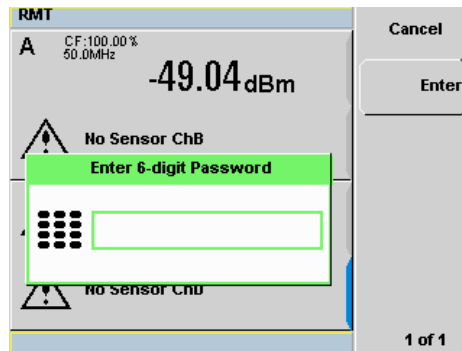
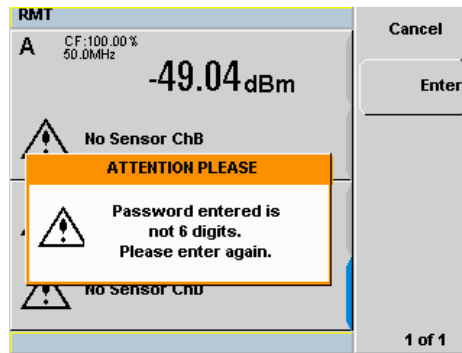

Figure 2-47 Enter 6-digit Password pop-up
Figure 2-49 Warning message
- 3 Press **Secure Blank**. The Enter 6-digit Password pop-up is displayed. You are to enter a 6-digit password upon activating the secure blank feature (see Figure 2-47).
- 5 A warning message pop-up will be displayed if the entered password is not 6-digits (see Figure 2-49). This warning will appear for two seconds before the Enter 6-digit Password pop-up (Figure 2-47) is displayed again.